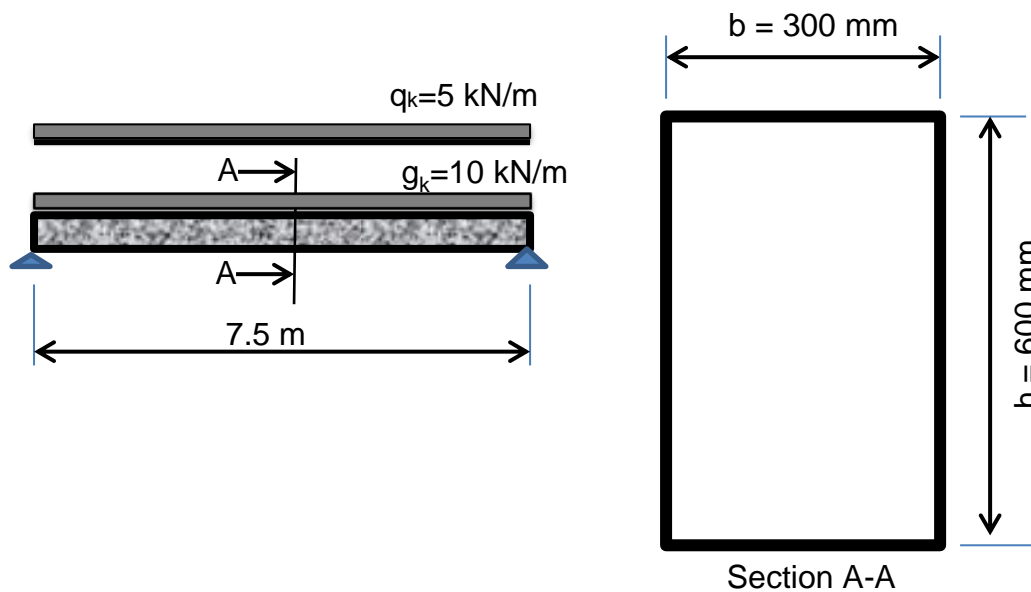

Figure 2/Rajah 2
- (3). A simply supported beam as shown in **Figure 2** has a cross section A-A supports uniformly distributed permanent actions (g_k) excluding it's self-weight of 10 kN/m and a variable action (q_k) of 5 kN/m. Design and provide the detailing for the beam. Take characteristic compressive strength of concrete, $f_{ck} = 35 \text{ N/mm}^2$, characteristic strength of reinforcement, $f_{yk} = 500 \text{ N/mm}^2$, diameter of main bar, $\phi = 20 \text{ mm}$, diameter of links, $\phi' = 8 \text{ mm}$ and concrete cover, $c = 25 \text{ mm}$. Ignore the shear check for the beam and take self-weight of the beam as 20 kN.